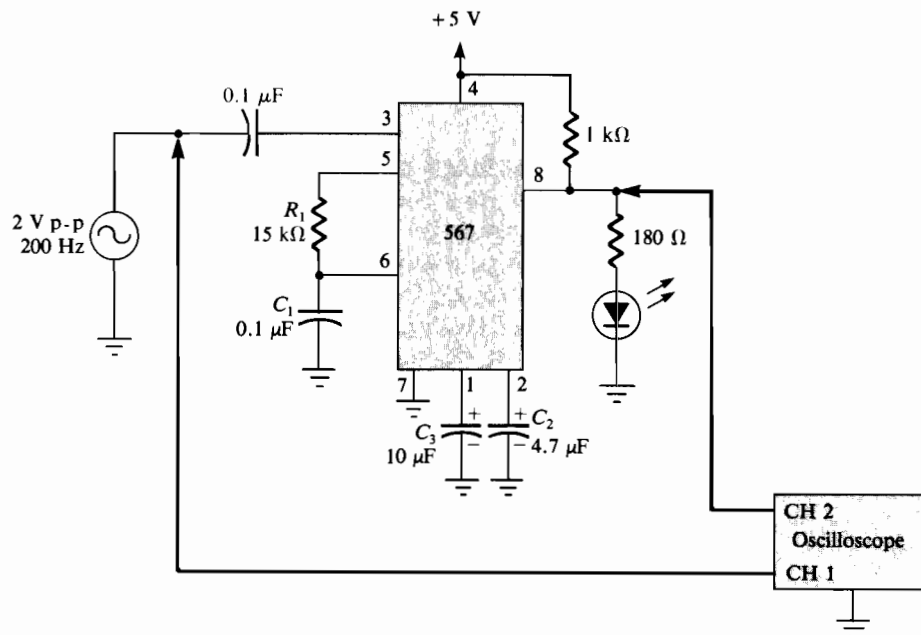

FIGURE 38-1 Schematic diagram of circuit.
1. Wire the circuit shown in the schematic diagram of Figure 38-1. Set your oscilloscope to the following approximate settings: